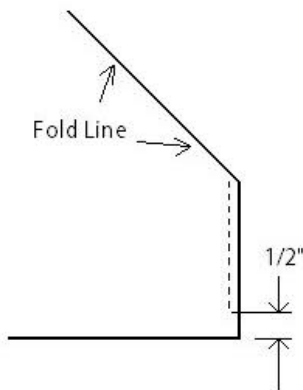

Figure 17. Side Pockets.
- 6.1 Sew bottom corners of side pockets together to form a dart in the pocket shape. Leave the last $\frac{1}{2}$ " open. Double stitch. See Figure 17.